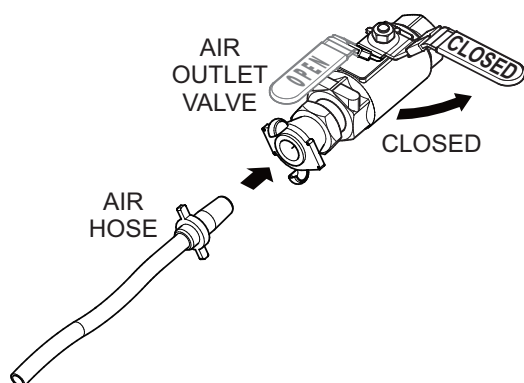

Figure 20. Connecting Air Hose
1. Connect the load air hose to the air outlet valves as shown in Figure 20.